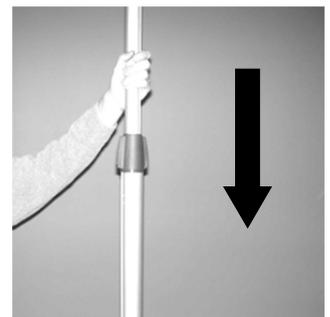

Figure 38
- d) Push top portion of post downward (see Figure 38).